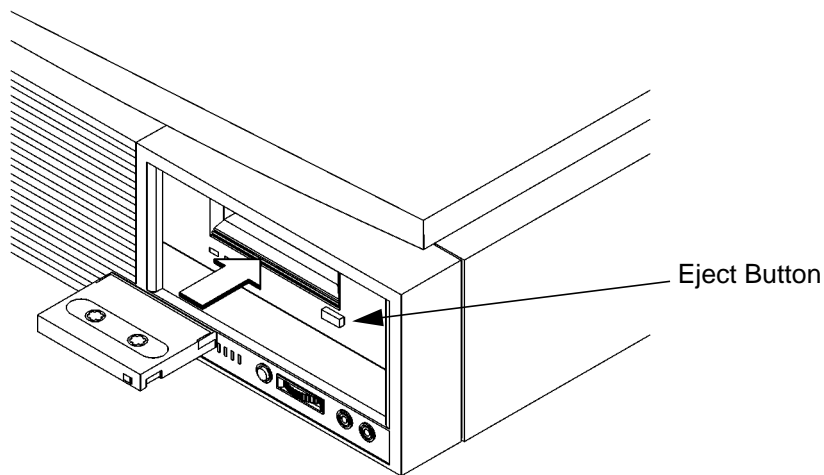

Figure 21
- 1 Insert the data cassette into the drive, as shown in Figure 21.
- 3 To remove the data cassette, press and release the eject button on the front of the drive, as shown in Figure 21. The LEDs on the drive flash on and off. Ten to twenty seconds later, the data cassette slides partway out of the drive. Remove the cassette from the drive.